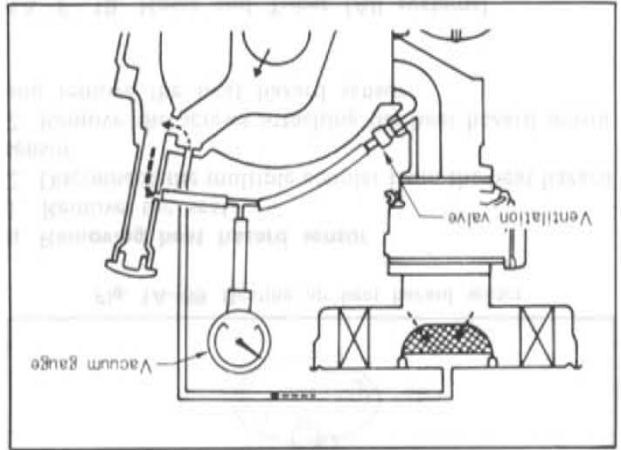

Fig. 1A-65 Checking charcoal canister
3. Attach a vacuum gauge as shown in Fig. 1A-65. Check to see that when the engine speed is raised to 2,500 ~ 3,000 rpm, the vacuum gauge reads under 60 mm-Hg.